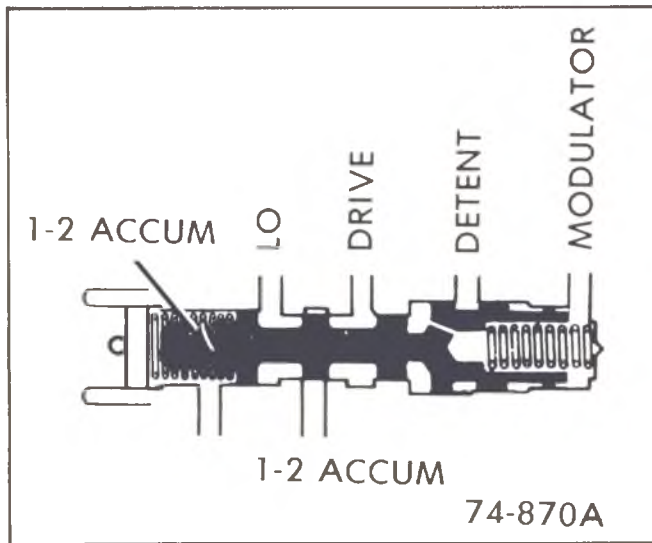

Fig. 17T-1-2 Accumulator Valve Train (Typical)
**1-2 Accumulator (Fig. 17T)**